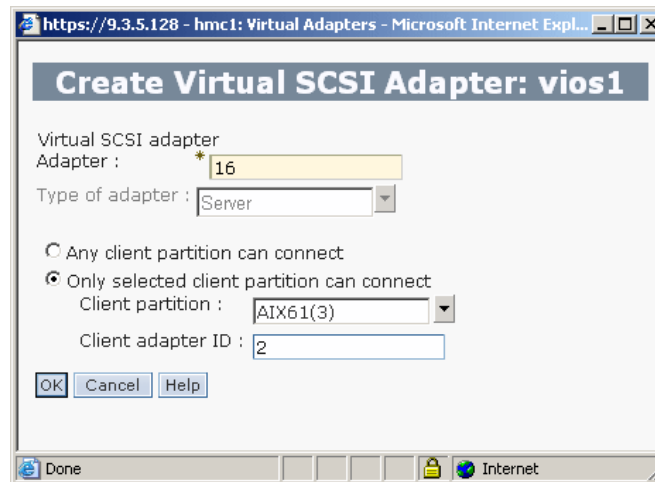

Figure 6-25 Virtual SCSI adapter properties
- Figure 6-25 shows you the window after clicking **SCSI Adapter...** Put in the slot adapter number of the new virtual SCSI being created. After that you have to select whether this new SCSI adapter can be accessed by any client partition or only by a specific one. In this case, as an example, we are only allowing the SCSI client adapter in slot 2 of the AIX61 partition to access it.